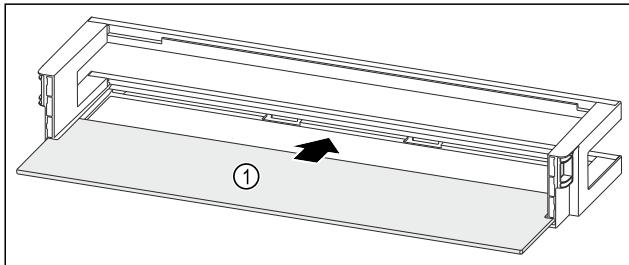

Fig. 146 Door rack with shelf
- ▶ Push the shelf Fig. 146 (1) into the side recesses.